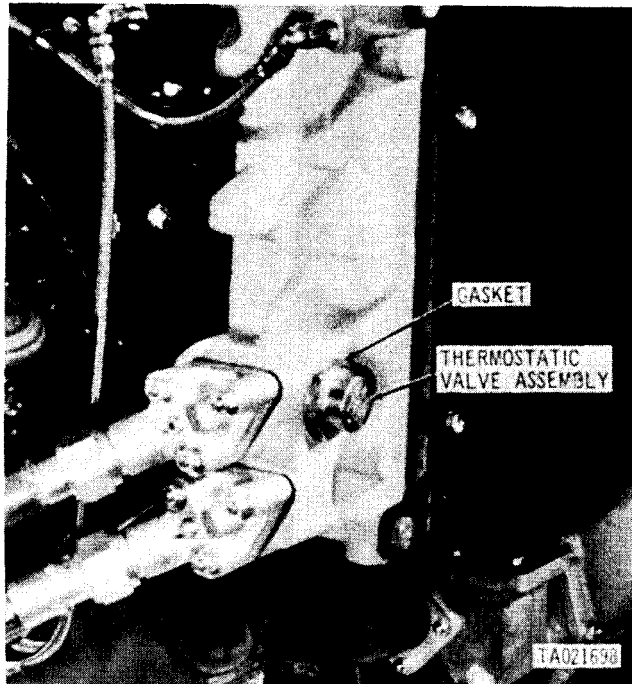

Figure 2-112. Removing or installing engine oil cooler thermostatic valve assembly.
(fig. 2-112).
(1) Position new gasket on thermostatic valve assembly (fig. 2-112),
(2) Install valve. Install left bank engine oil cooler (para 2-27b).